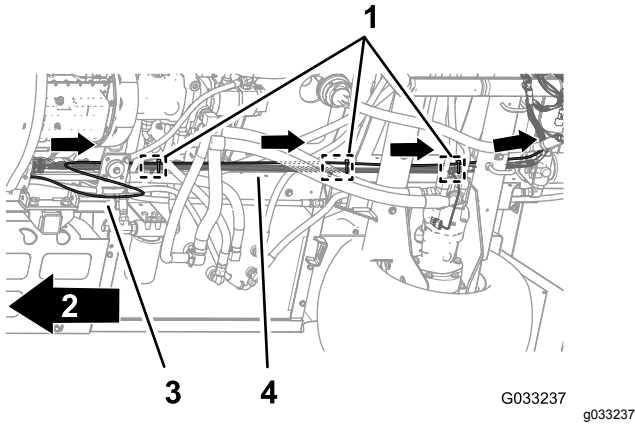

Figure 94
1. Route the pressure-sense tube for the dash gauge along the rear wire harness of the machine (Figure 94).
2. Secure the pressure-sense tube to the rear wire harness with 3 cable ties adjacent to the 3 push-in fasteners at the chassis anchor points for the rear wire harness (Figure 94).